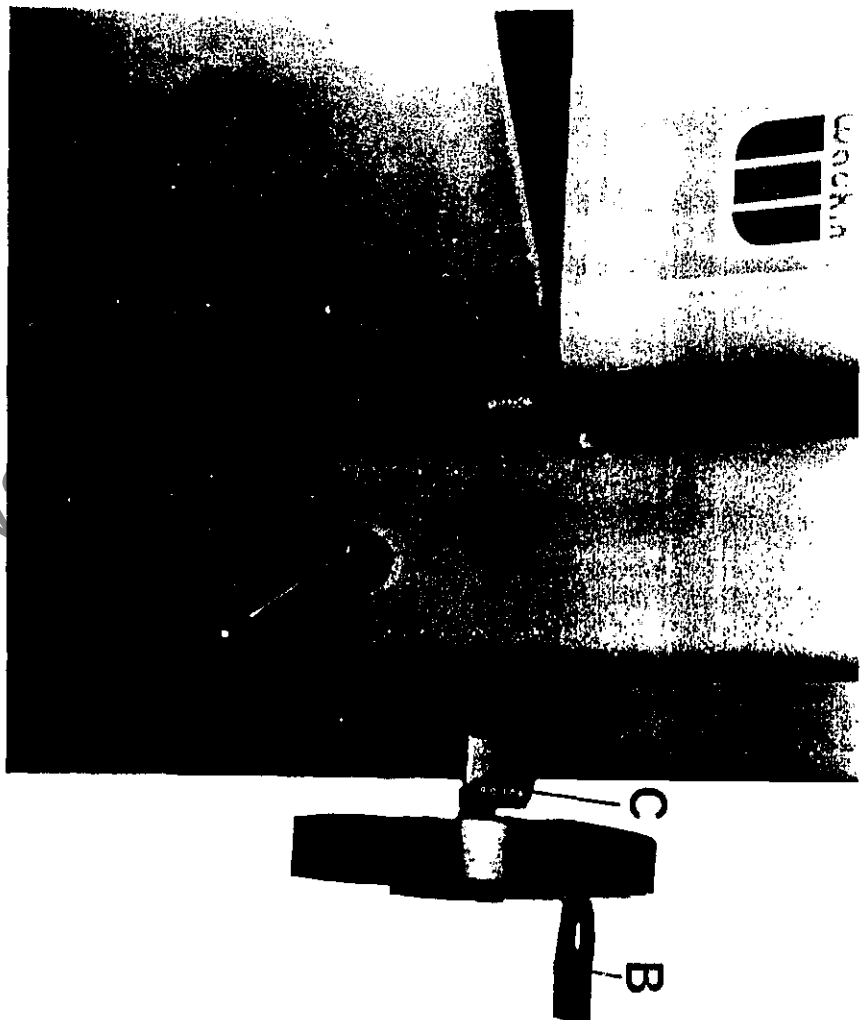

FIG. 4
- a) Loosen locking handle "A" FIG.4.